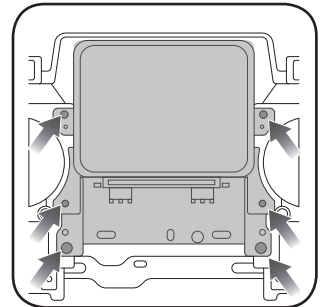

Fig. 1.4
3. Remove four (4) screws holding the screen frame, and two (2) screws holding the radio body. (Fig. 1.4)
4. Remove and unplug the OEM screen. (Fig. 1.4)
5. Remove and unplug the OEM radio. (Fig. 1.4)